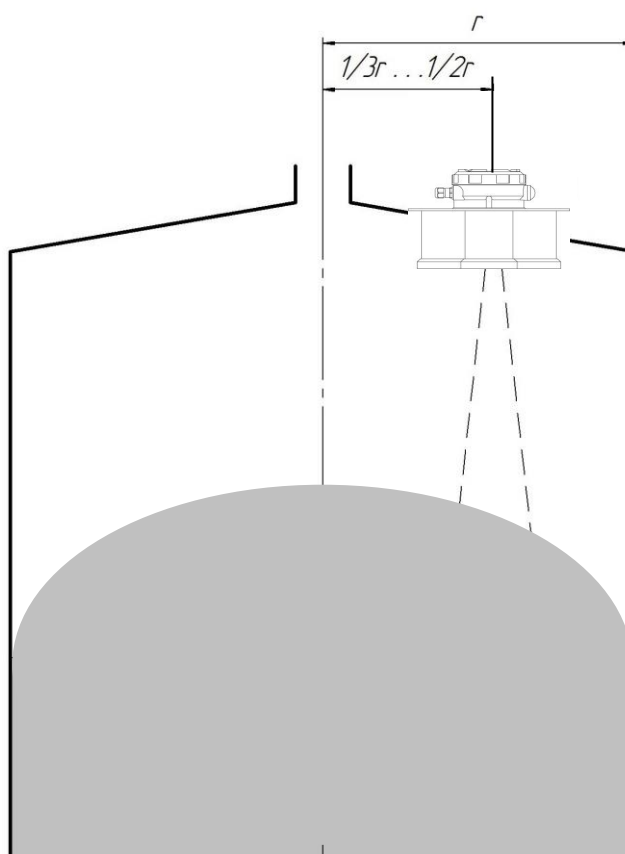

Fig. 4.4. Device installation
- choose the distance from the vessel wall to the central axis of the level transmitter within $1/2 \dots 1/3$ of the tank radius, Fig. 4.4;